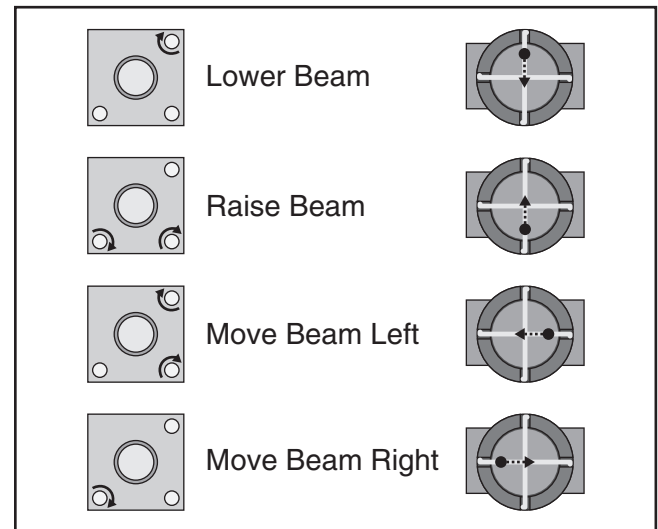

Figure 104. Mirror thumbscrew adjustment.
29. Adjust direction of beam path by tightening thumbscrews depending on desired direction of beam travel (see **Figure 104**).